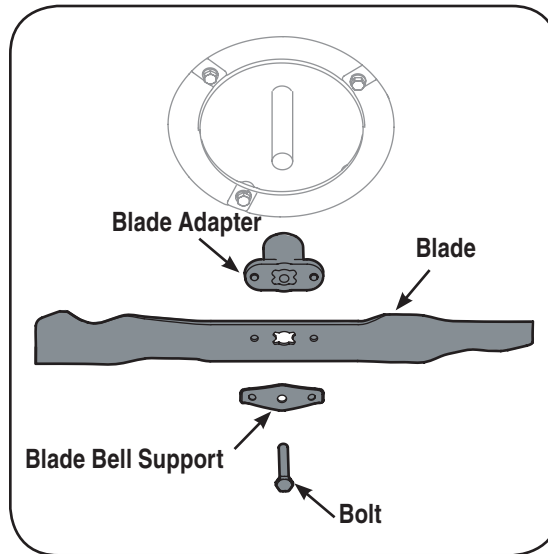

Figure 5-3: Remove the bolt and blade bell support to access the blade.
2. Remove the bolt and the blade bell support which hold the blade and the blade adapter to the engine crankshaft. See Figure 5-3.
3. Remove blade and adapter from the crankshaft. See Figure 5-3.